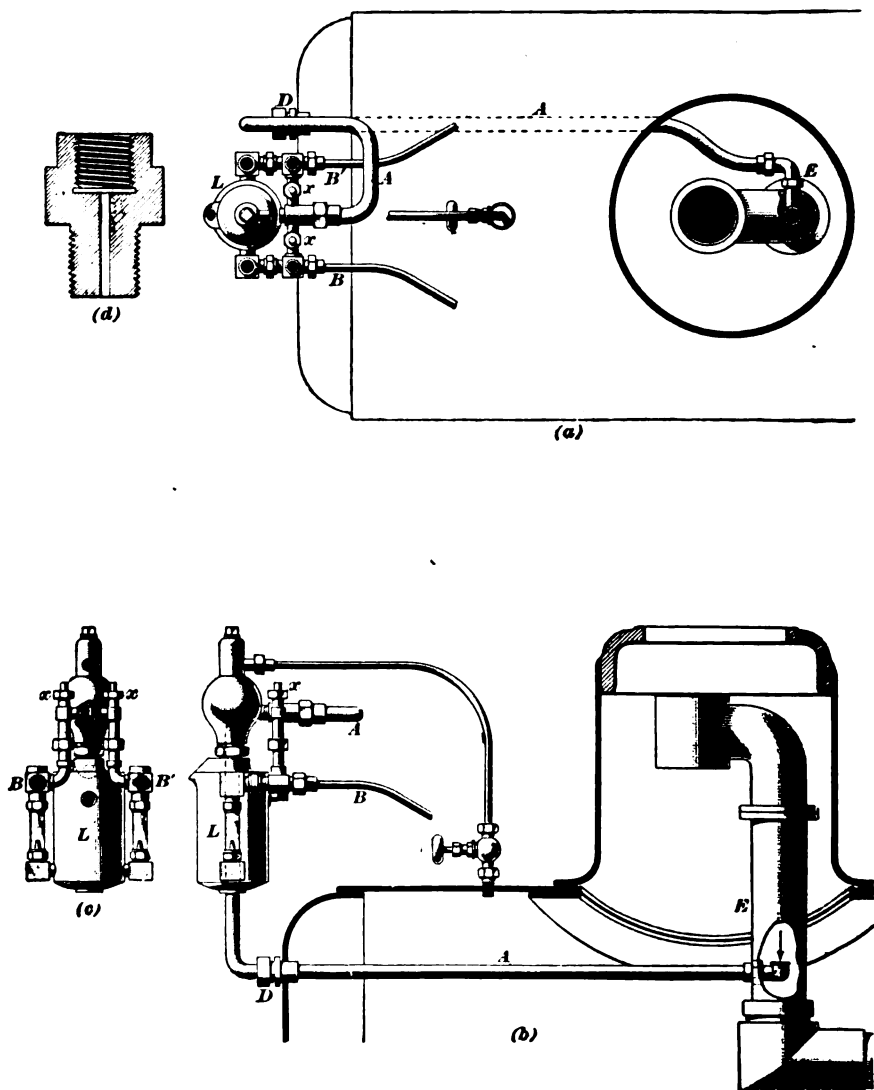

FIG. 24.
**61. Tippet Attachment.**—To insure a regular delivery of oil to the valves and cylinders, when the Detroit lubricator is used, a device known as the **Tippet attachment** is employed. Three views of this attachment and the necessary piping are given in Fig. 24, in which *L* is the lubricator. The attachment consists of an auxiliary steam pipe *A*, which leads from the stand pipe *E* to the expansion joint *D* in the boiler head. Outside the boiler the pipe *A* rises some distance above the oil pipes, as shown by the dotted lines behind the